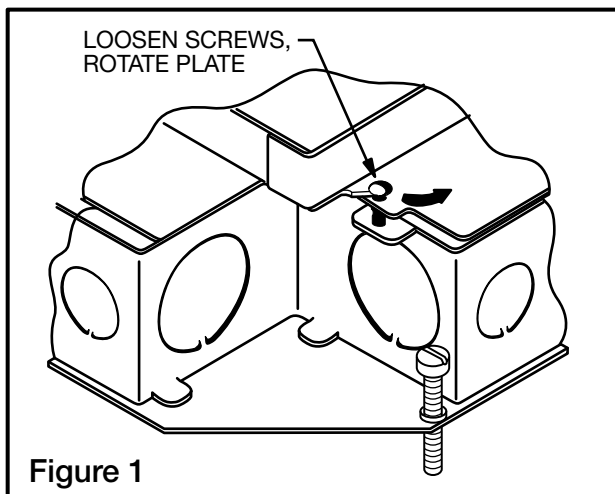

Figure 1
1. To remove top, loosen (4) screws and rotate top plate away from screws. See **Figure 1**.